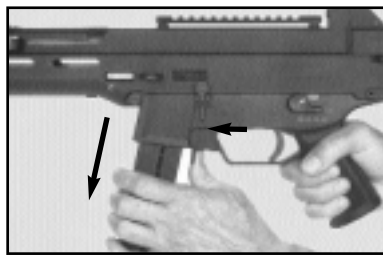

Fig. 23 Remove magazine
- For removal of the magazine, push magazine catch forward (Fig.23) and remove magazine downward.